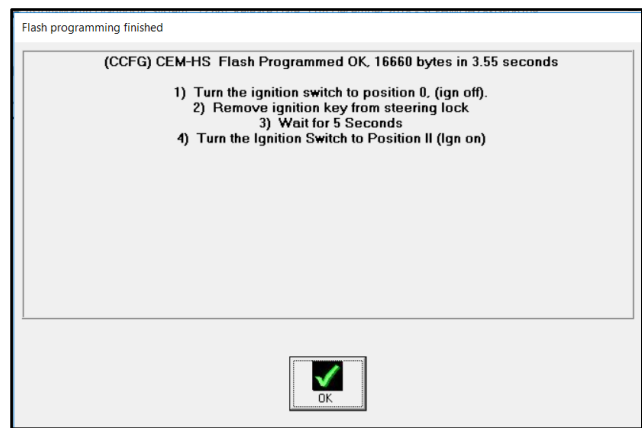

Figure 9
14. Once the Flash update is complete, click "OK" (refer to Figure 9).